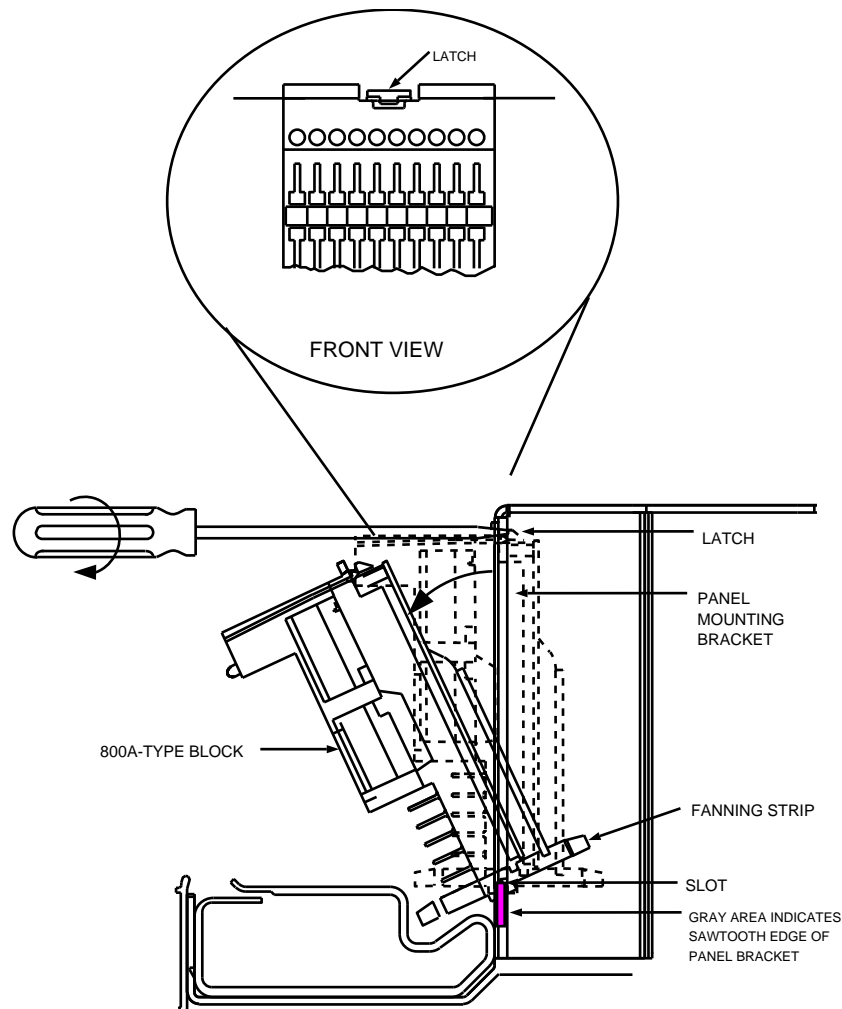

Figure 2. Removing 800A-Type Connecting Block
1. Insert screwdriver into slot at top center of tie-circuit connecting block from front of bay, until blade contacts stop at back of latch (see Figure 2).
Figure 2 shows an 800A2-A1 connecting block. This procedure may also be used for other connecting blocks that "snap" into a shelf mounting bracket.